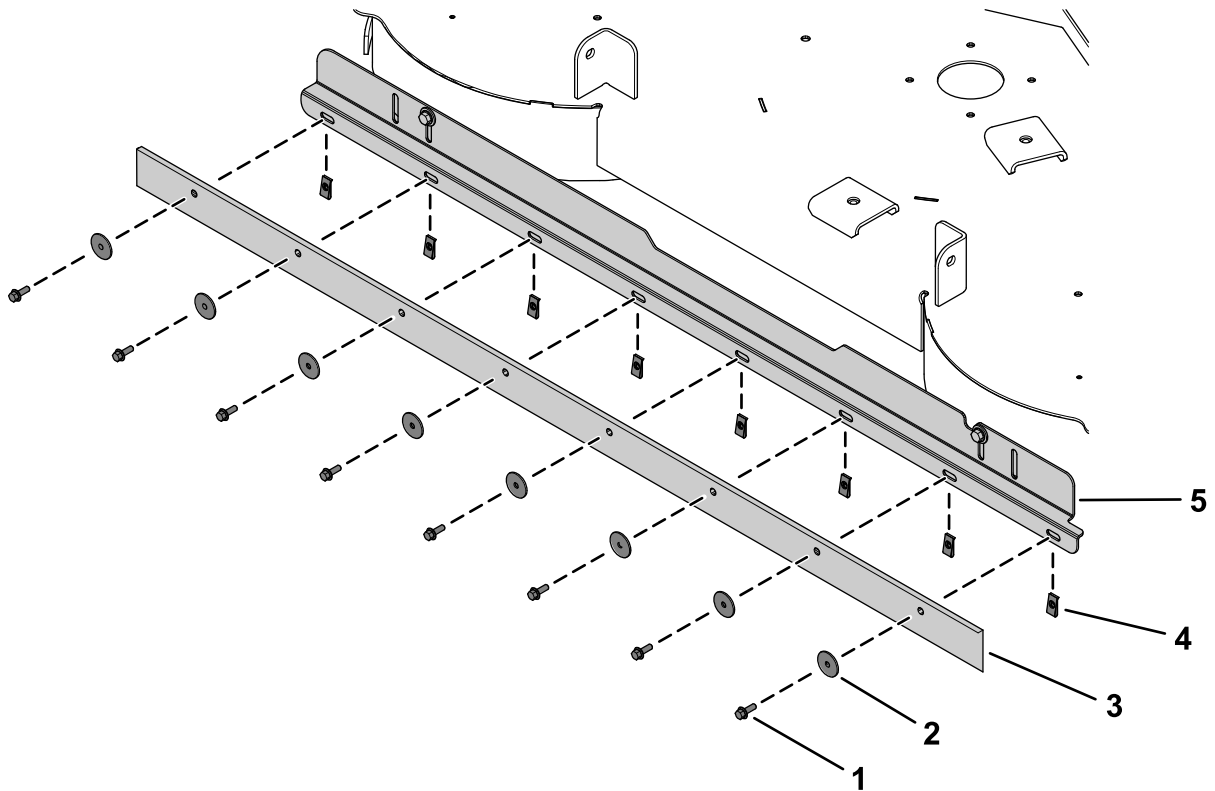

Figure 4
2. Install the 8 speed nuts onto the striping bracket (Figure 4).
3. Secure the wiper to striping bracket and speed nuts using 8 hex-head screws (1/4 x 3/4 inch) and 8 washers (Figure 4).